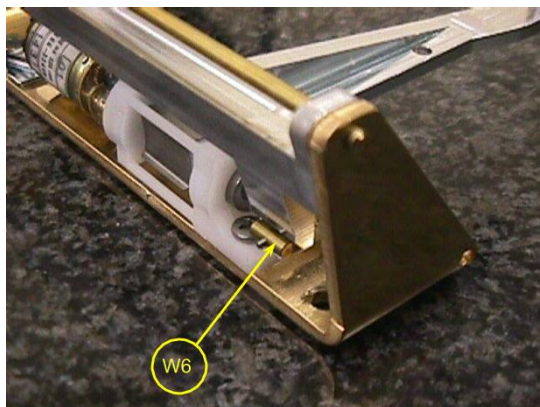
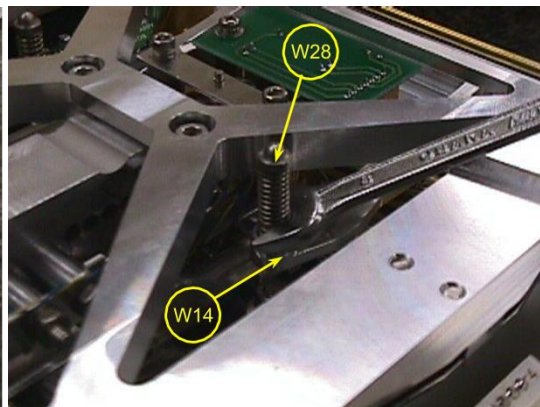

Fig.24
Fig.25
- Turn and adjust the Hooking shaft (W6) at the Lever calibration weight support (W1) so that the Lever calibration weight support (W1) becomes horizontal (Fig.24).
- Fit the Weight loader assy by following steps 1) to 3) of "4.6 Replacing the Weight loader assy (10)" in reverse order.
- 7) Fit the Assy, Pan support(4) in accordance with the procedures of "3. Inspection of the Balance Interior".
- Connect the Weight loader assy (10) connector to the Assy, display (B4).
- While the calibration weight is raised, adjust the height of the Assy, Push-up stick (W28) so that its tip sticks out above the top of the Assy, Pan support (4) by the amount stated below, and lock it in place using the Nut (W14) (Fig.25).